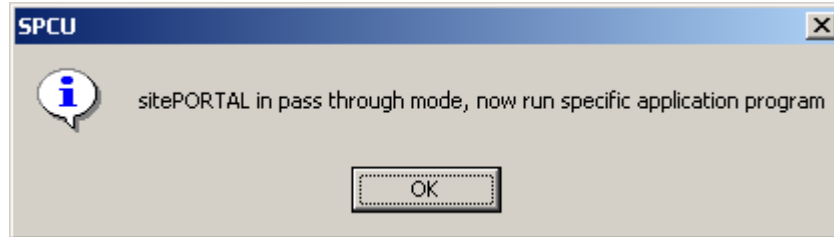

Figure 6 – Pass-through mode complete
25. Click "OK" to log out (Figure 6).